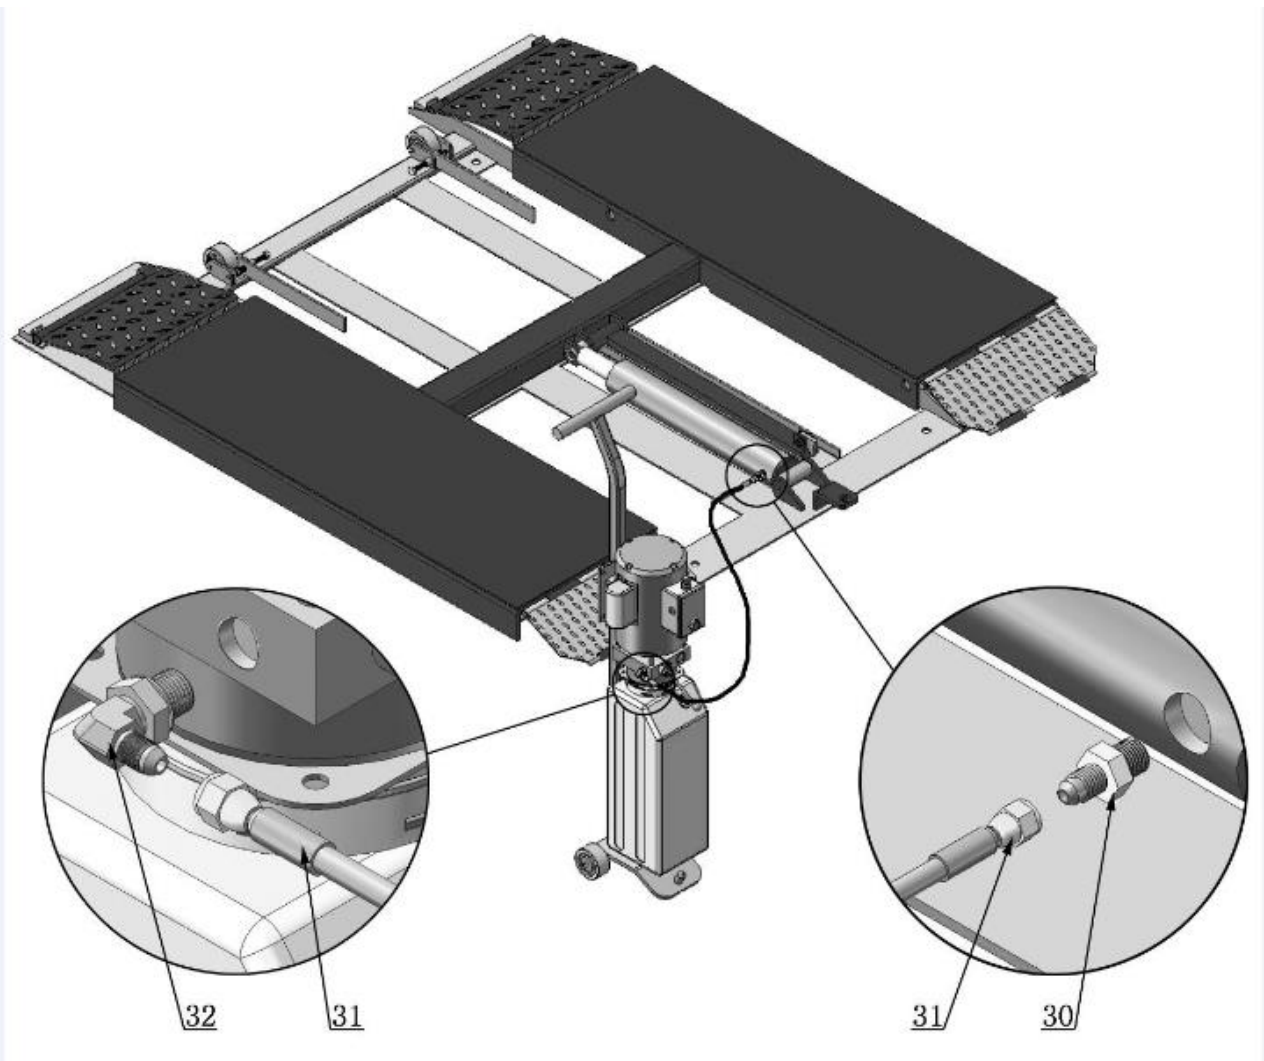

Fig. 7
C. Install fitting to power unit, and then connecting oil hose (See Fig.7).